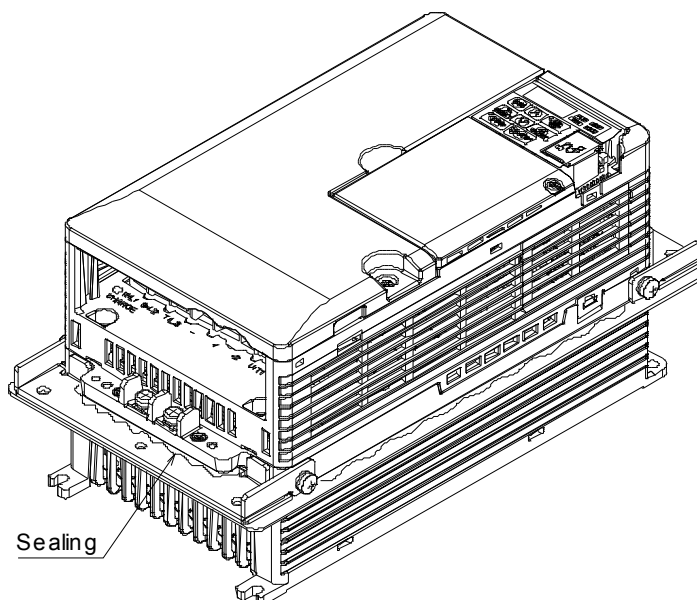

Figure 16: 5.5 kW to 18.5 kW – Apply sealing
1. In case that the gap between the attachments and the inverter is a problem, apply a sealing like shown in Figure 16.